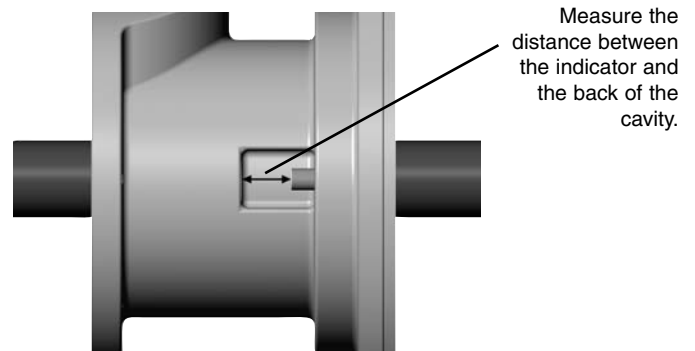

Figure 1. Initial seal ring indicator measurement
Before installing the joint body (1), an initial measurement needs to be taken from the seal ring wear indicator as show in Figure 1. This can be done using snap gauges and calipers. Record this measurement for later use.